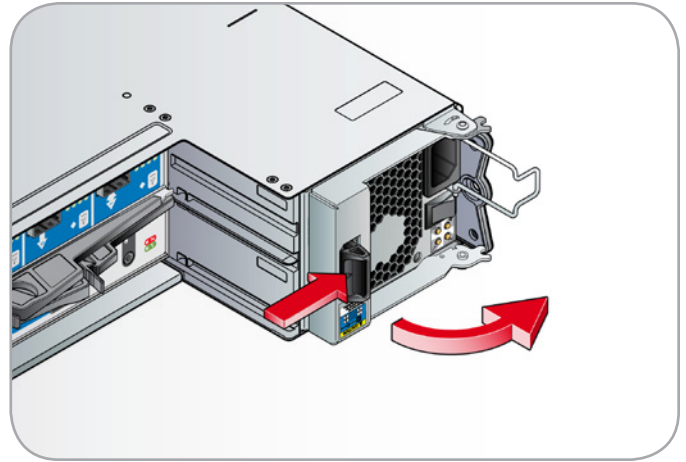

Fig. 71 - Removing the Power Cooling Module (1)
2. Grasp the latch and the side of the power cooling module handle between your thumb and forefinger, and squeeze together and open the handle to release the PCM from the enclosure (Fig. 71).